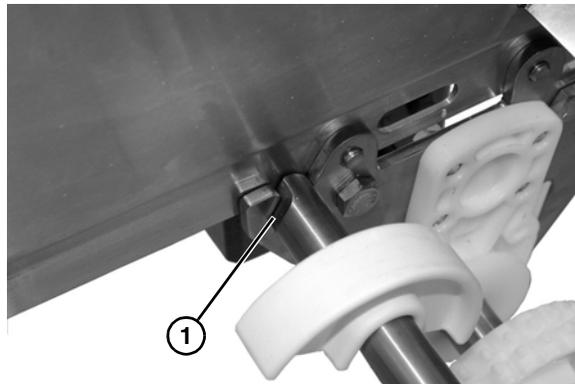

Figure 30
6. When replacing belt return, be sure shaft is seated in pocket on side plate (Figure 30, item 1).